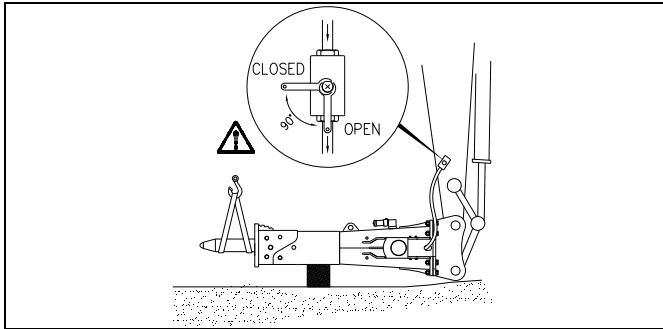

Fig. 10-2 Close Valves, Elevate, Support Tool
3. Close shut off valves (Fig. 10-2)